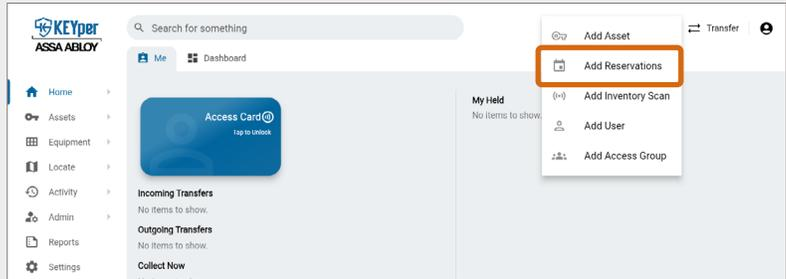

Fig. 92 – Add menu with Add Reservations indicated (KEYper GO Web)
2. Select **Add** , then select **Add Reservations** as shown in Fig. 92.